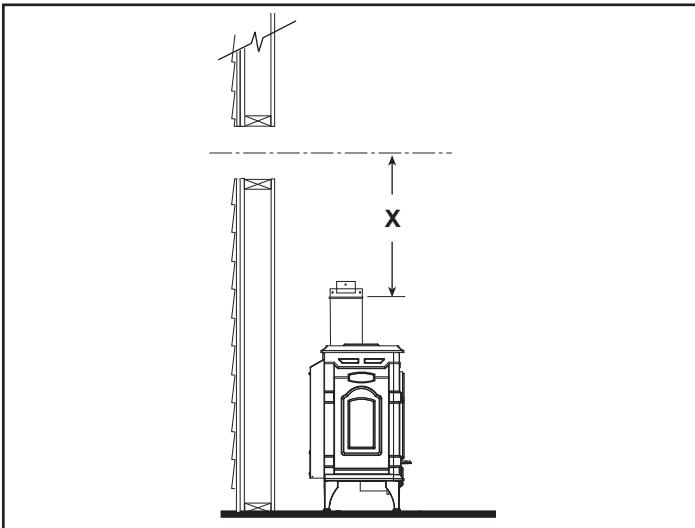

Figure 24 - Determine the vertical pipe length.
4. For Hearth & Home Technologies Vent Pipe only: If necessary, measure to determine the vertical length (X) of pipe required from the adapter pipe to the wall cutout centerline, including a 2" (51mm) overlap at the joint. (Figure 24) use a hacksaw or tin snips to trim the pipe as needed.